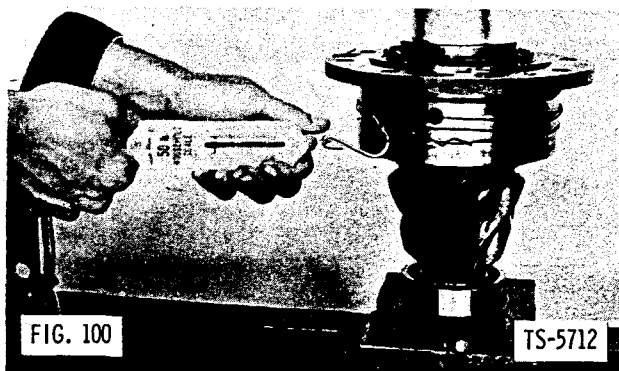

FIG. 100
8. Keep pinion and cage assembly in press with approximately 500 pounds of press pressure exerted on driver. Wrap several turns of soft wire or cord around pinion cage and pull in horizontal line with spring scale. While pulling in straight line (90 degrees from centerline of shaft), read spring scale and measure rotating torque (Fig. 100). Multiply reading on spring scale by one-half diameter of bearing cage to obtain preload torque. Correct preload torque is 13 to 23 in.-lbs. If preload is not within these limits, remove shims to increase preload or add shims to decrease preload.